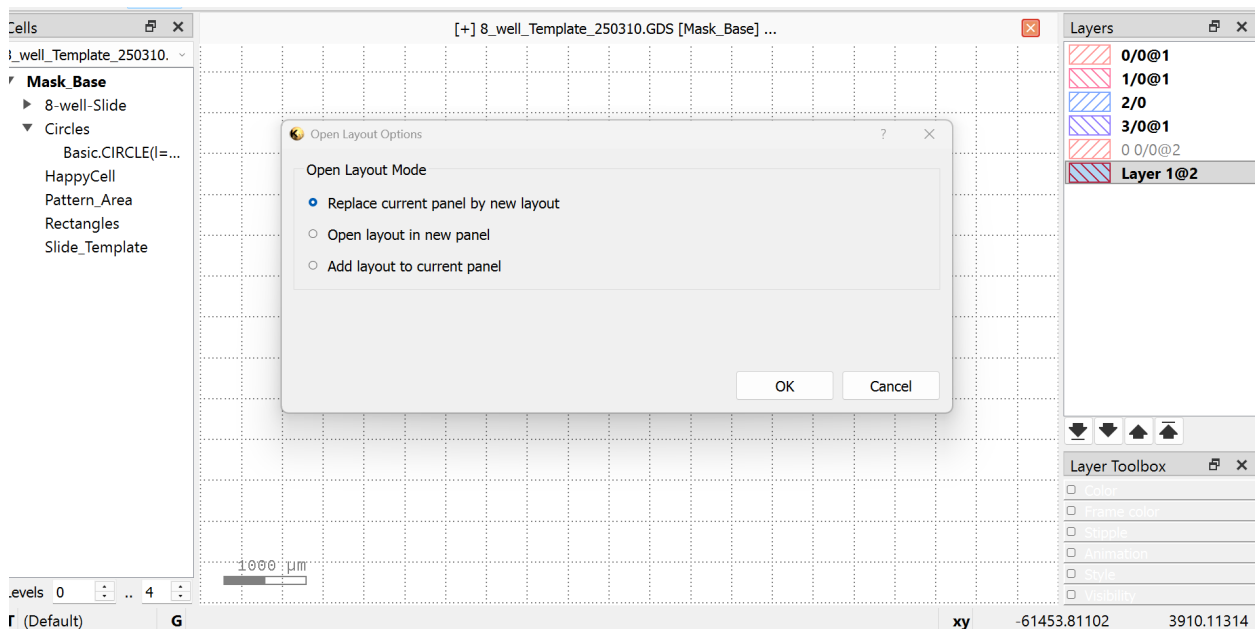

Figure 10: Import of .dxf files into KLayout Editor.
3. The “Open Layout Options” window will appear (see Figure 10).